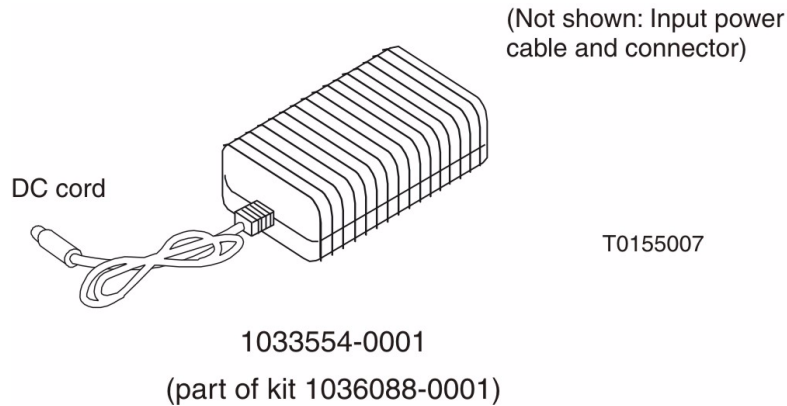

Figure 5: DC/DC power supply
2. Connect the DC power cord to the DC IN port on the router, as shown in Figure 5 on page 13.
Figure 5 shows the DC/DC power supply used with the HN router.